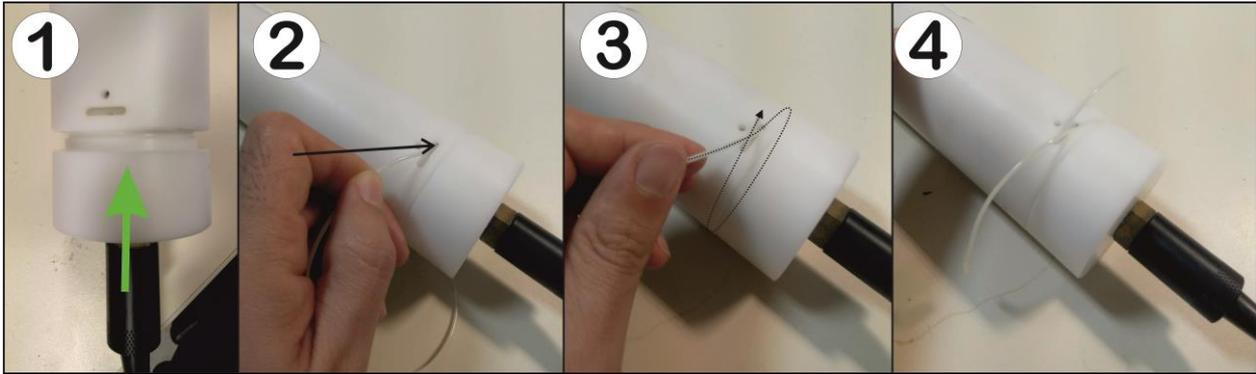

Figure 22 - Closing the end cap
To lock the end cap, press a little in the cap to take it to the correct position (1 of Figure 22). There's no fixed position for this cap. Put the locking plastic wire, by rolling it (3) through the opening of the image (2). After closing it, the two ends of the locking wire will be sticking out, and the system is ready for deployment (4).